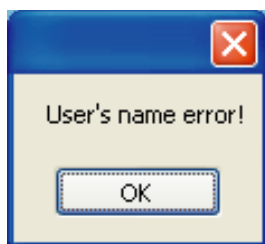
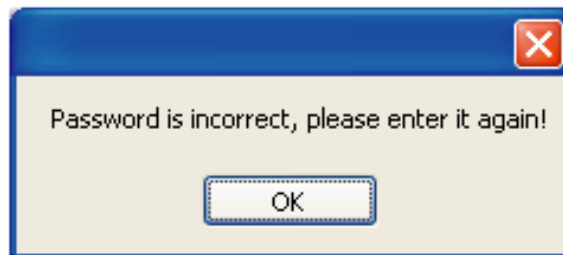

Fig.4-3
Fig.4-4
- 6) When provide a wrong USERE'S NAME, the window as Fig.4-3 will be display, while PASSWORD error, the window shows as Fig.4-4.